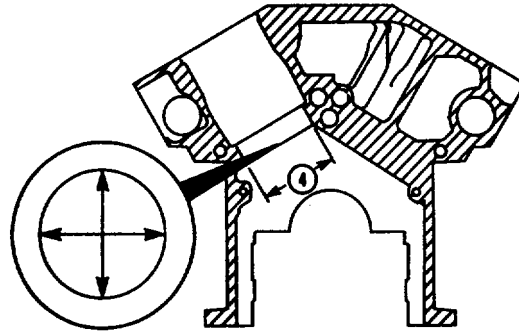

FIGURE 4-85. Packing Ring Bore Measurement.
- (6) Measure inside diameter of the packing ring bore (4, FIG. 4-85). Verify measurement is within specifications in Table 4-8 .